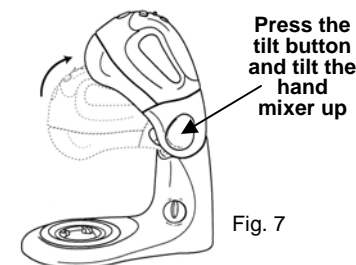

Fig. 7
- To remove the hand mixer from the pivot support, first raise the mixer by pressing the tilt button and raise the mixer up. (Fig. 7) the mixer will lock into the raised position.